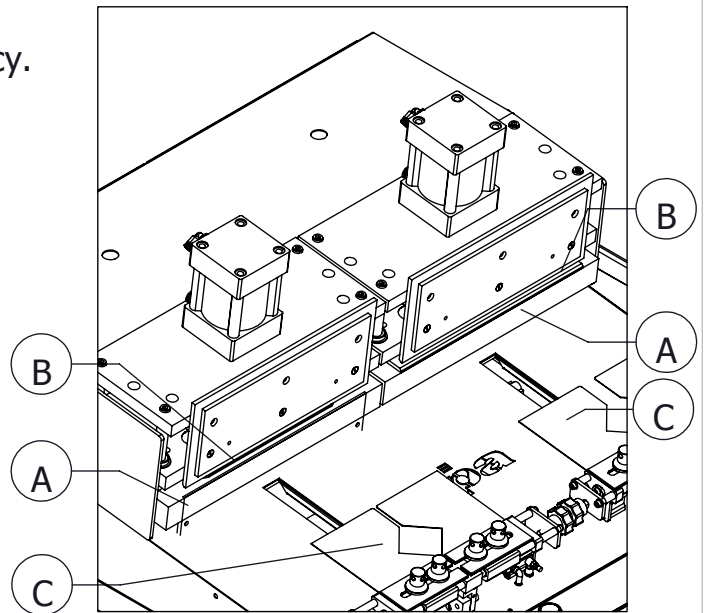

Figure.8
- Control the mould.(Figure.8 B-C)
- Control connections of the mould. (Figure.8 B-C)